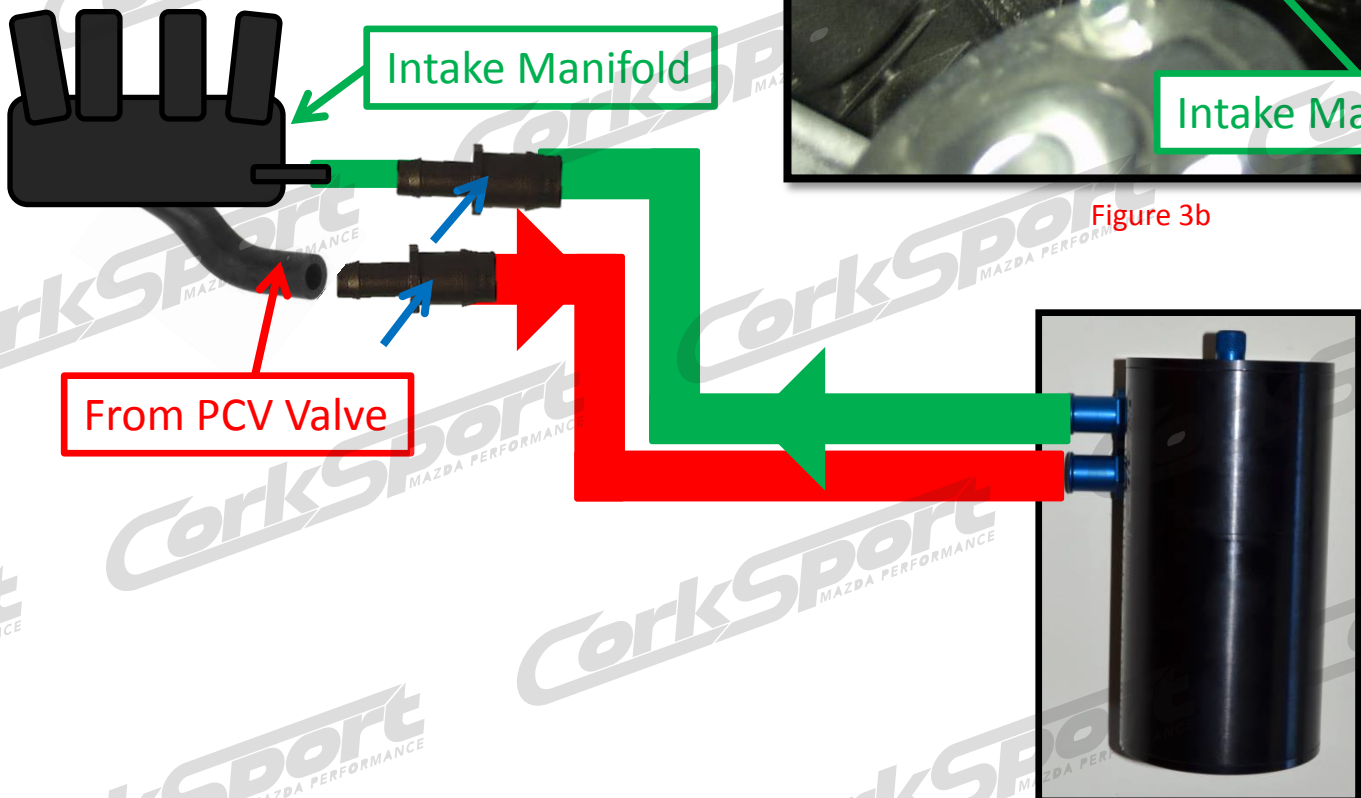

Figure 3c
- c) Connect the OCC hoses as shown in the diagram on page 3. Use the supplied hose reducers as shown (Figure 3c).
- h) Trim the hose leaving enough slack to account for engine movement and attach to the catch can (Figure 3c).
c) Review the diagram for the OCC hoses as shown. Use the supplied hose reducers as shown (blue arrows in Figure 3c). The next pages will detail these connections.